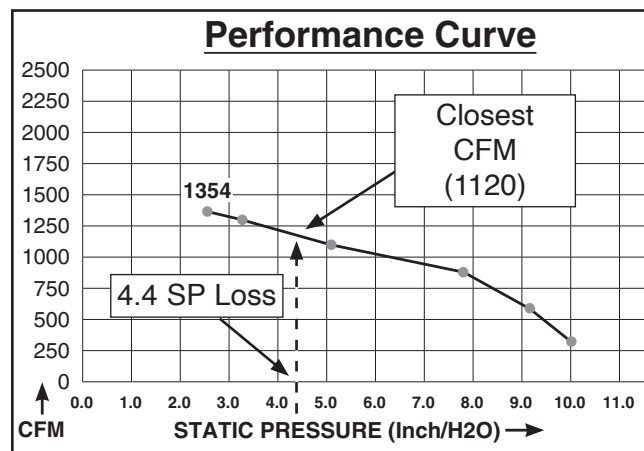

Figure 57. Example CFM for static pressure loss of line connected to a dust collector & router.
5. Compare the total static pressure loss for that line to the closest CFM given in **Figure 57** for your dust collector.
Example: A typical **Data Sheet Performance Curve** is illustrated in **Figure 57**. Find 4.4 on the Static Pressure axis (the amount of total static pressure loss calculated in **Figure 57**), then refer to the closest value on the CFM axis—approximately 1120 CFM.